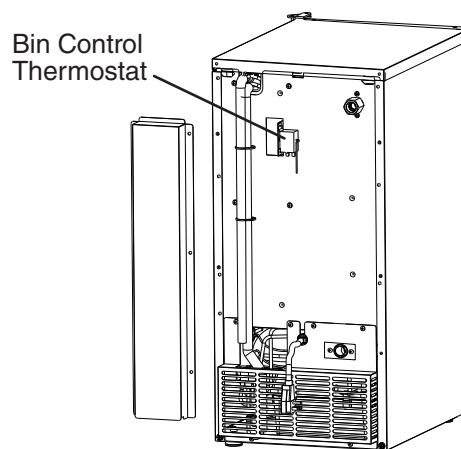

Fig. 33
10. To confirm bin control operation, hold ice in contact with the bin control thermostat bulb. **NOTICE!** If the ice machine does not stop within 10 seconds, the bin control thermostat must be adjusted. Installation at higher altitude locations are more likely to require adjustment. See Fig. 33.